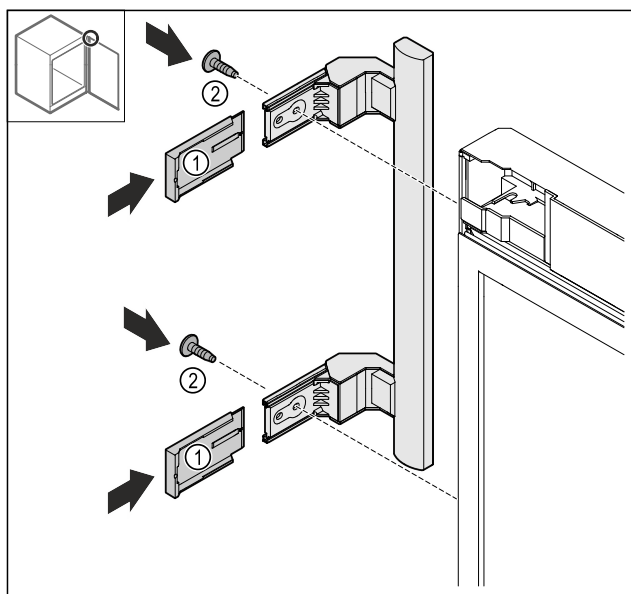

Fig. 26
- Slide on the Fig. 26 (1) covers.